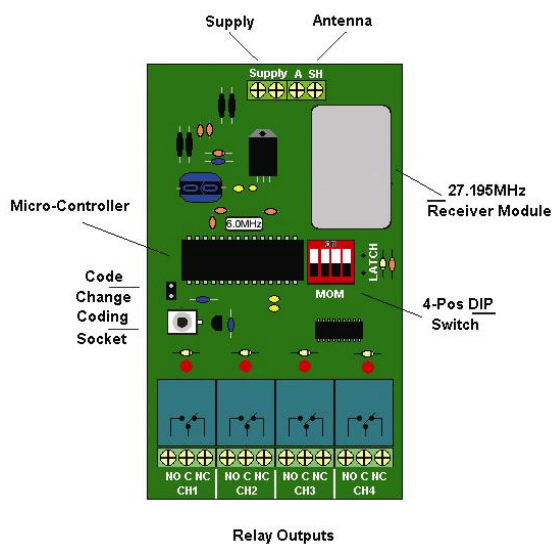

Figure 1. SRWSSH 4 Receiver
1. Using a flat-bladed screwdriver, short the code change pins on the receiver marked by the “CC” symbol. This will randomly generate a new receiver security code. Refer to Figure 1 for the location of the code change pins.
3. Connect the link cable (RED) to the coding sockets of the receiver and the transmitter. The coding socket of the transmitter is in the battery port. The LED on the keypad will glow solid red to indicate a properly installed link cable. See Figure 1 for the location of the receiver coding socket and Figure 2 below to find the coding socket of the transmitter.
2. To randomly generate a new security code, short the code change pins marked "CC" on the receiver board. Refer to Figure 1 to locate the code change pins.